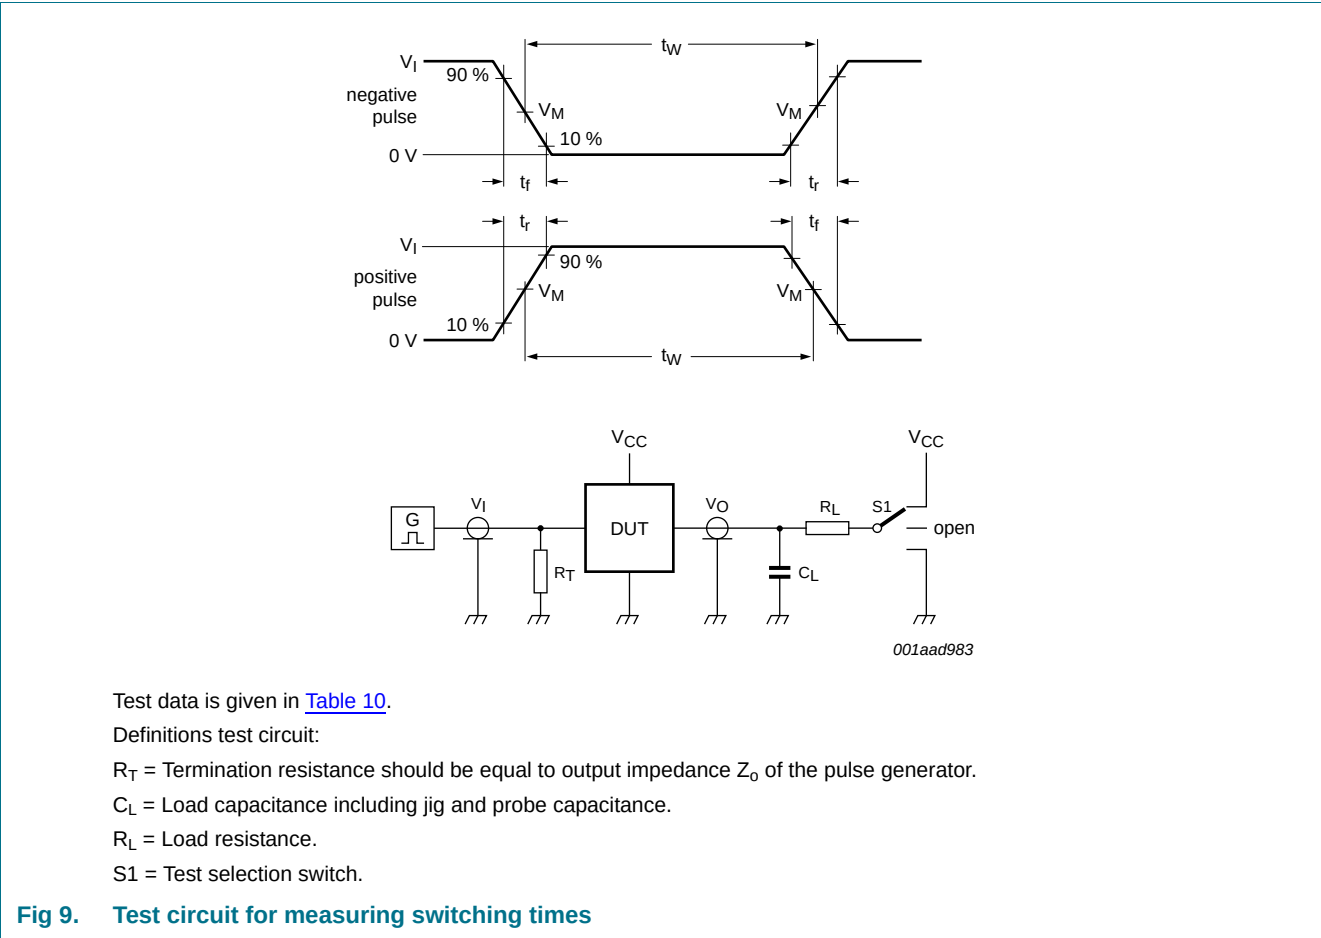

Fig 9. Test circuit for measuring switching times
GND = 0 V; For test circuit see Figure 9.
**Table 8. Dynamic characteristics ...continued**GND = 0 V; For test circuit see Figure 9.
*GND = 0 V; For test circuit see Figure 9.*